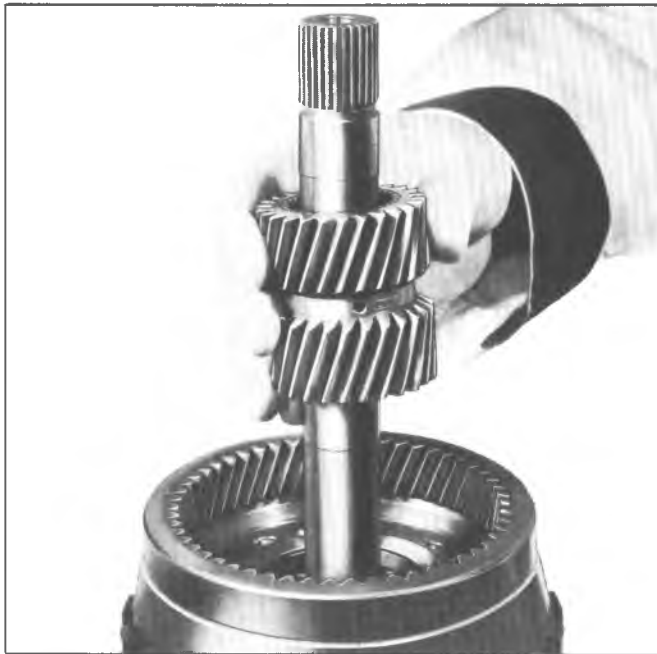

Fig. 42T--Removing Sun Gear
6. Remove sun gear (fig. 42T).